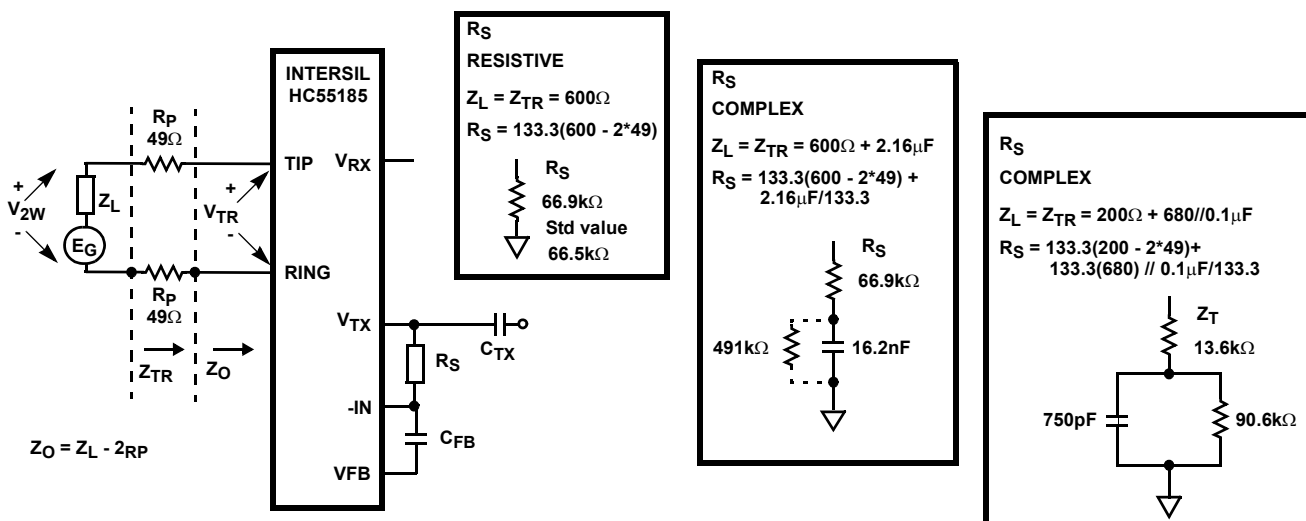

FIGURE 1. IMPEDANCE MATCHING
Impedance matching of the HC55185 to the subscriber load is important for optimization of 2 wire return loss, which in turn cuts down on echoes in the end to end voice communication path. Impedance matching of the HC55185 is accomplished by making the SLIC's impedance (ZO, Figure 1)
Equation 1 can be used to match the impedance of the SLIC and the protection resistors (ZTR) to any known line impedance (ZL). Figure 1 shows the calculations of RS to match a resistive and 2 complex loads.